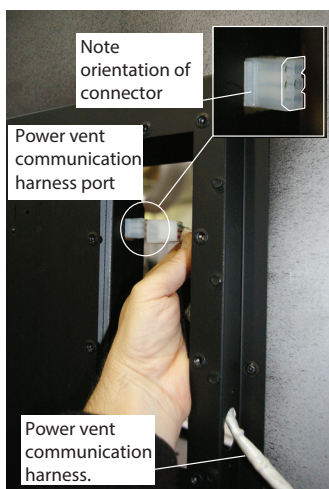

Figure 12d. Locate Power vent connections.
**Step 5.** Route the Power Vent Communication conduit into the cover as shown, and connect to the communication Port, **Figure 12d**.